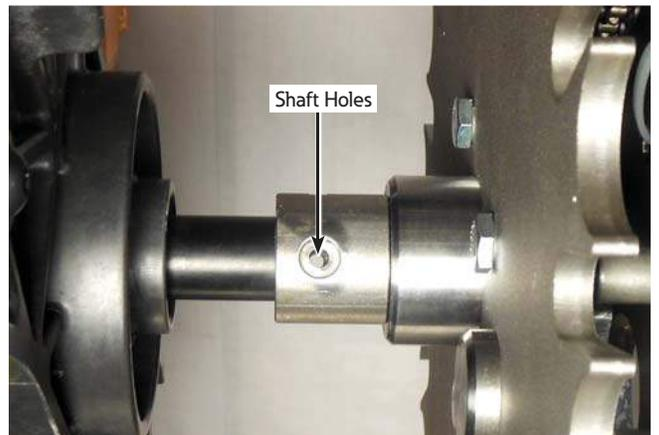

**Figure 79. Movable contacts rotates over the neutral stationary contact**
14. Rotate the movable contacts over the neutral stationary contact (Figure 79).